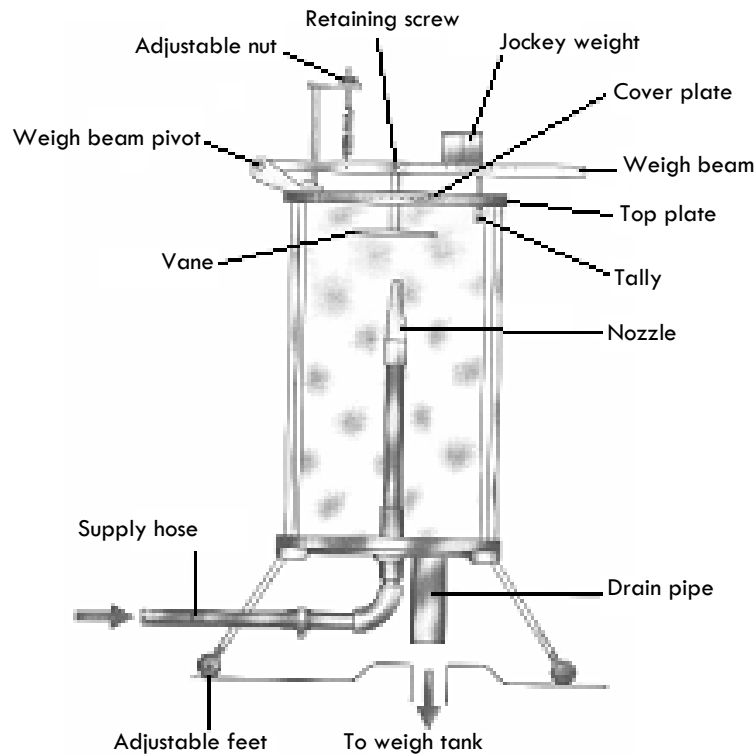

Figure 3 Impacts of Jet Apparatus
1. Set the weigh beam lever (of Figure 3) to the balance position with the jockey weight at zero position by adjusting the nut (Impact of a Jet Apparatus). The beam lever is balance once it is in a horizontal position when the tally indicator is in line with the top plate.
7. Adjust the jockey weight (Figure 3) position to set the weigh beam lever at balance position (refer to tally indicator) in line with the top plate.